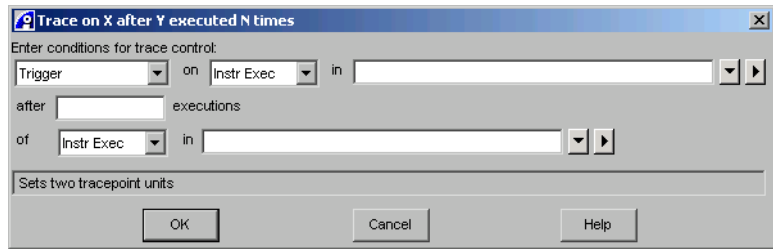

Figure 2-54 Trace on X after Y executed N times dialog box
2. Select **Debug** → **Tracepoints** → **Trace on X after Y executed N times...** from the Code window main menu. The Trace on X after Y executed N times dialog box is displayed, as shown in Figure 2-54 on page 2-158.